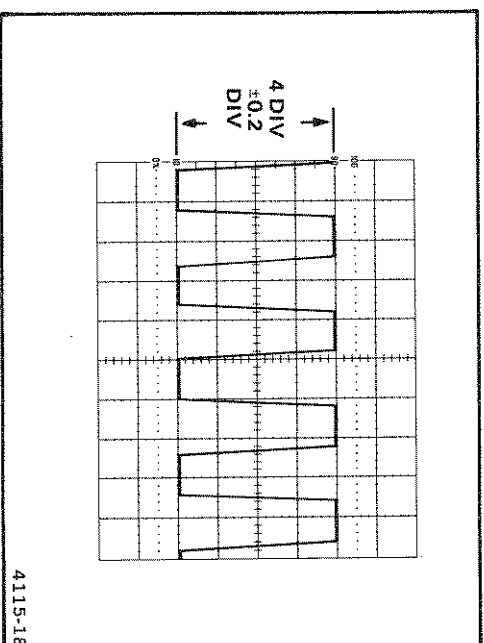

Figure 11. Vertical display accuracy.
7. Check for a vertical display amplitude of 4 divisions  $\pm 0.2$  division (3.8 to 4.2 divisions). See Figure 11.